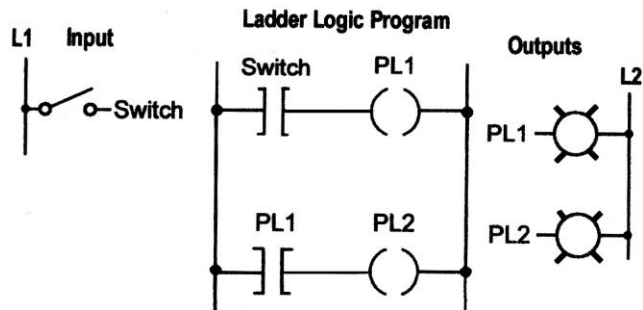

Figure 9-15 Program for assignment 7.
7) Enter the forcing program of Figure 9-15 into the PLC, and demonstrate how each of the following is executed: (a) forcing the switch on; (b) forcing the switch off; (c) forcing PL1 on; and (d) forcing PL1 off.